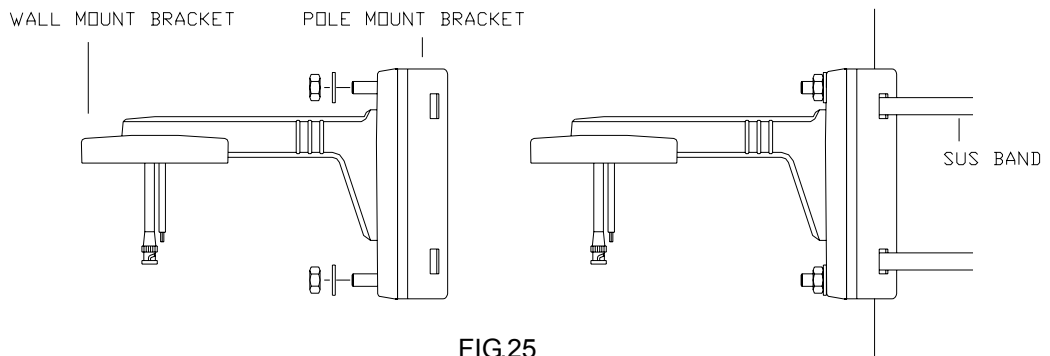

FIG.25
2. Tie the bracket with SUS BAND tightly. (FIG.25)